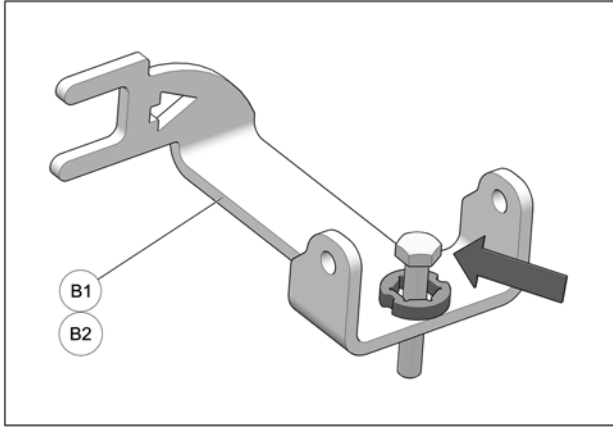

Fig. 4
4. Insert bolt in rear anchor bracket (B1-B2) as shown in Fig. 4